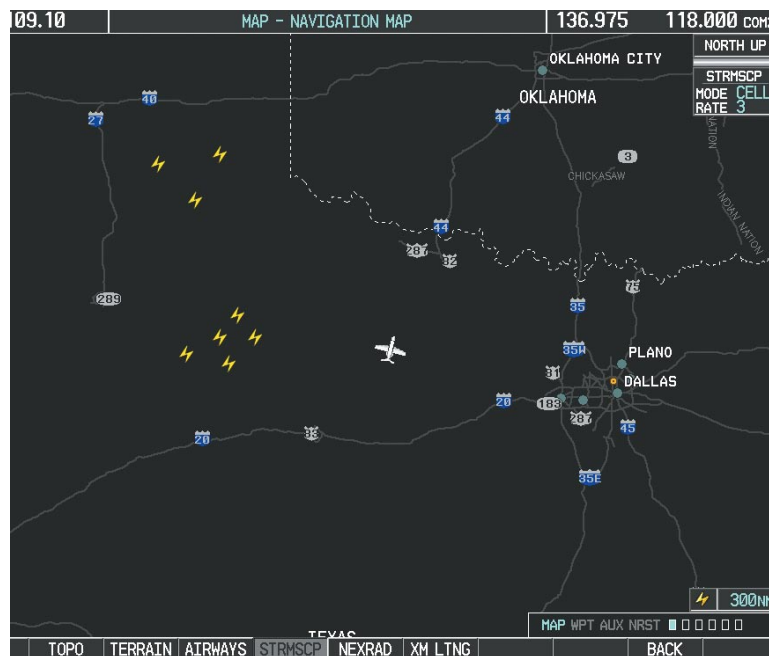

Figure 6-47 Navigation Map Page with Stormscope Lightning Data
- 7) Press the **FMS** Knob to return to the Navigation Map Page (Figure 6-47).
On the Navigation Map, cell mode identifies cells of lightning activity (Figure 6-47). Stormscope identifies clusters of electrical activity that indicate cells. Strike mode indicates the approximate location of lightning strikes.